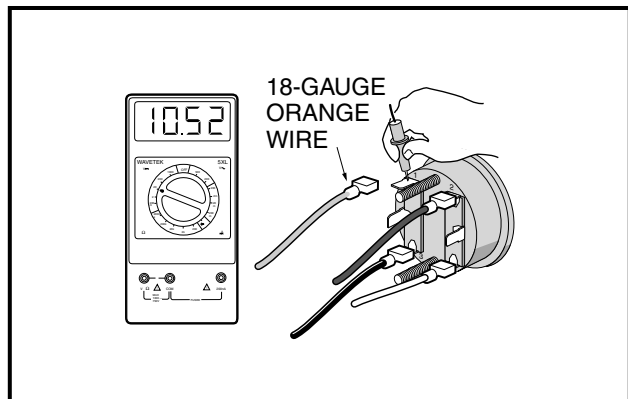

Figure 11-55 Fuel Gauge Voltage Test
9. The orange wire should remain disconnected for this step. With the black probe still on the (3) terminal of the fuel gauge/hour meter, place the red (+) probe of the multimeter on the (1) terminal of the fuel gauge/hour meter. The voltage reading should be the same as the full battery voltage reading obtained in step 5. If the reading is incorrect, replace fuel gauge/hour meter (**Figure 11-55, Page 11-46**).